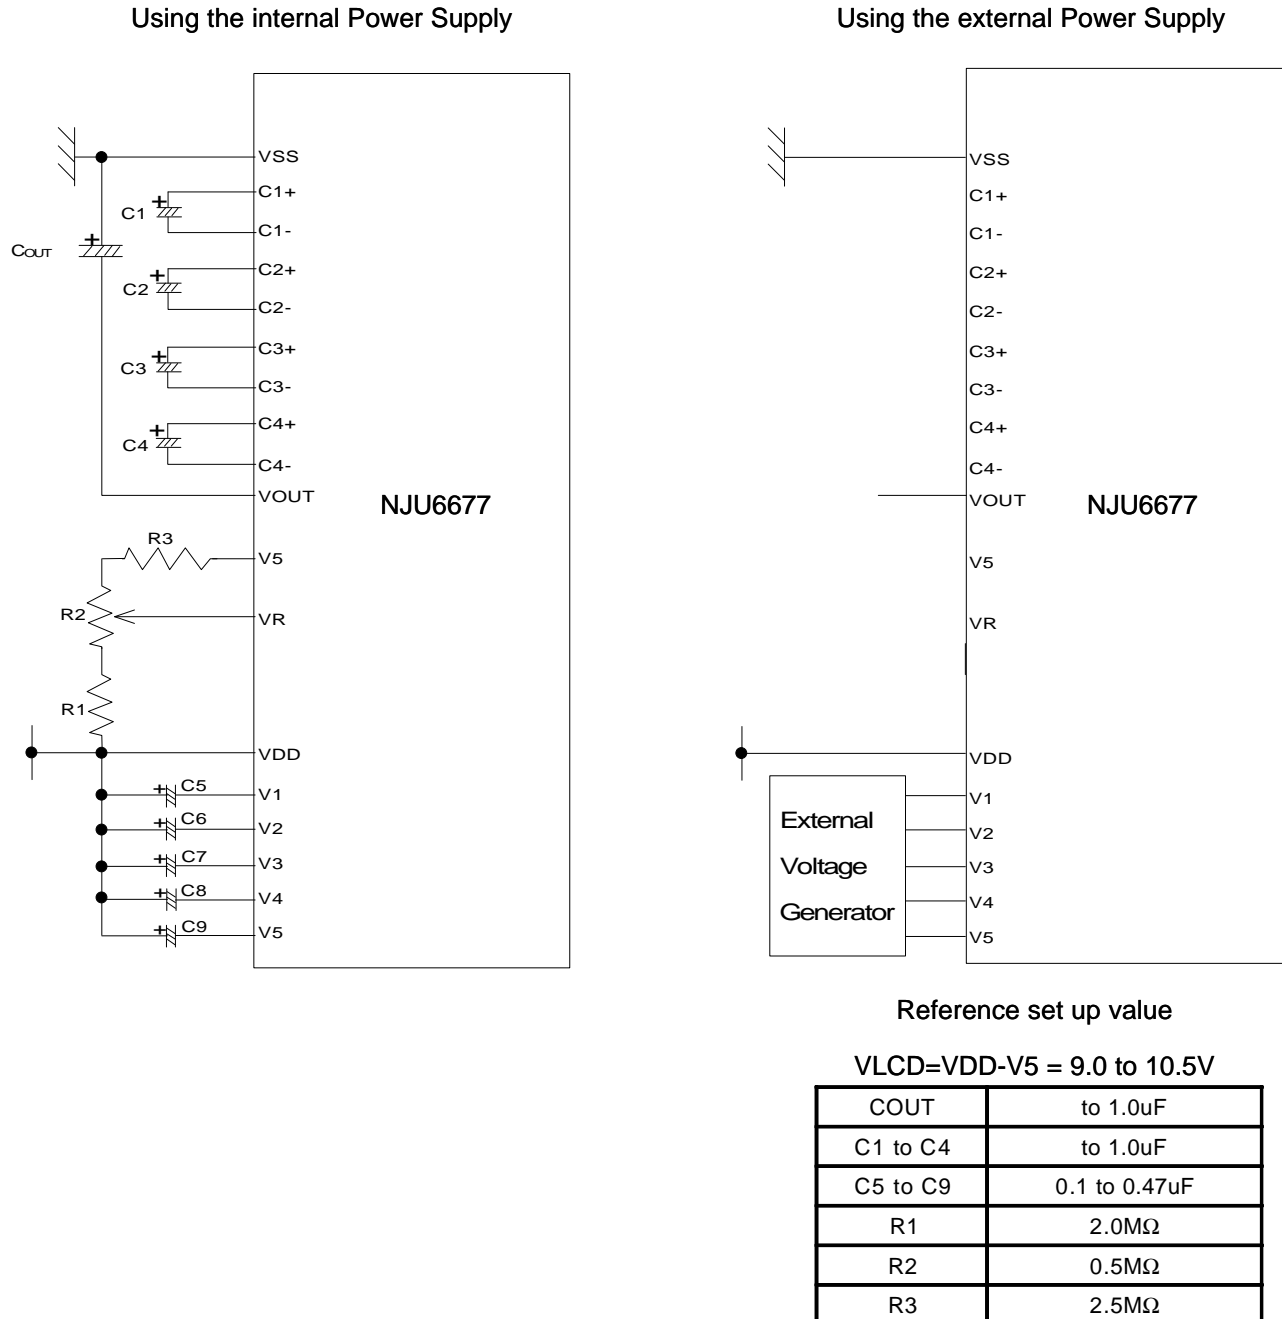

Fig.4
*1 The wait time depends on the C1 to C9, COUT capacitors (refer (4) (d)Fig.4), VDD and VLCD voltage.
As shown in Fig. 4, Five capacitors are required to connect to each LCD driving voltage terminal for voltage stabilizing. And the value of capacitors C5, C6, C7, C8 and C9 are determined depending on the actual LCD panel display evaluation.